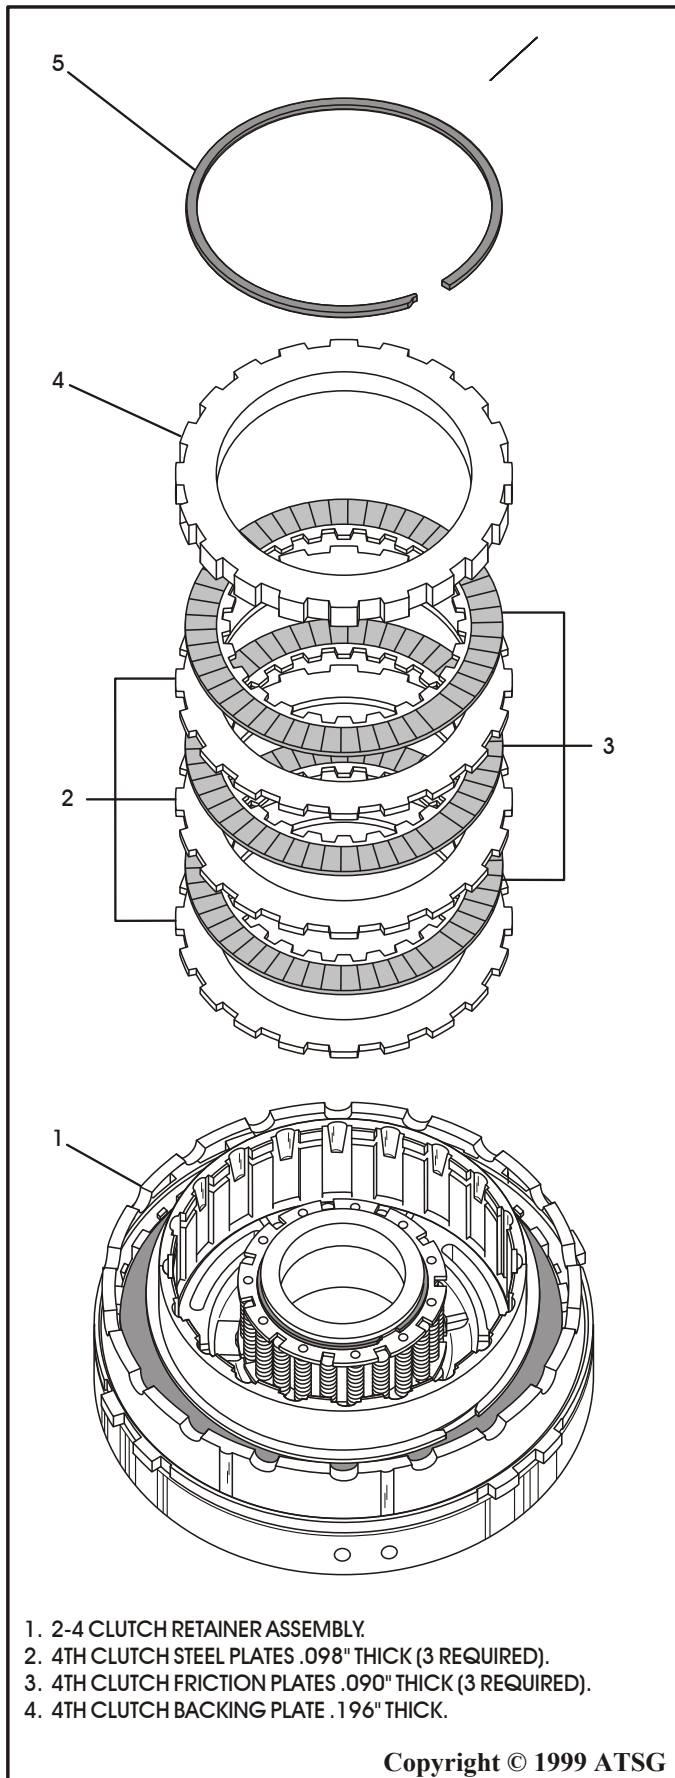

Figure 66
14. Install the 4th clutch pack beginning with a steel plate and alternating with friction plate until you have installed three of each plate, as shown in Figure 66.
15. Install the 4th clutch backing plate, as shown in Figure 66. This plate is non-directional and will go in either way.
16. Install the 4th clutch backing plate *selective* snap ring as shown in Figure 66, and ensure that it is fully seated.